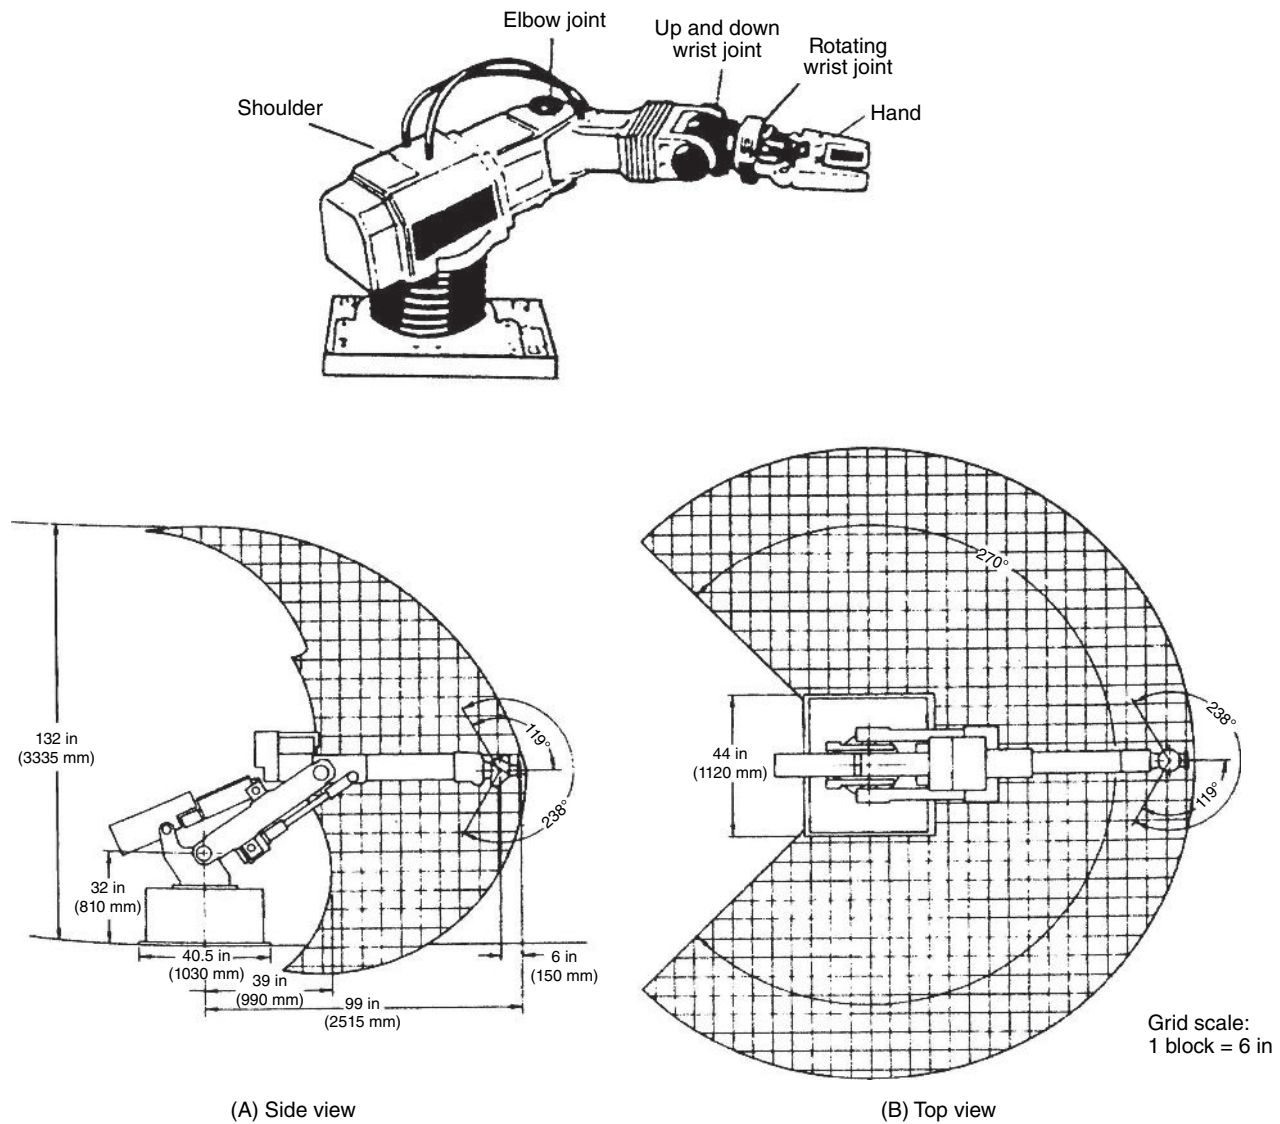

Fig. 22-9 (A) The parts of an industrial robot used to pick and place (Radio Shack); (B) tear shaped work envelope.
The work envelope is also referred to as a sphere of influence or work area for the robot. See Fig. 22-9. Articulations are (1) extending and retracting the arm, (2) swinging or rotating the arm, and (3) elevating the arm. The robot has six degrees of freedom if it can move the wrist three ways and the arm three ways. Human workers have forty-two degrees of freedom.